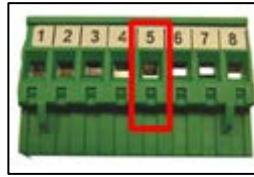

Figure 5: Opening a Port
1. Install digital sensors as shown in Figure 5 (optional).
- Figure 5: Opening a Port